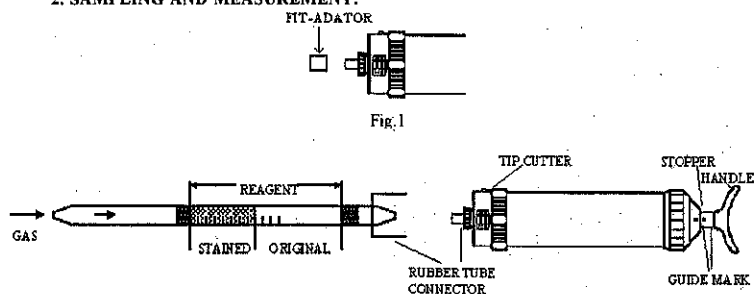

Fig.2
- ② Break both ends of detector tube.
- ③ Insert the detector tube into aspirating pump securely as shown in Fig.2 (Arrow mark shall point to the pump.)
- ④ Align the guide marks on the shaft and stopper of the aspirating pump.
- ⑤ Pull pump the handle at 1/2 strokes until it locks and wait for 1 minute or until the completion is